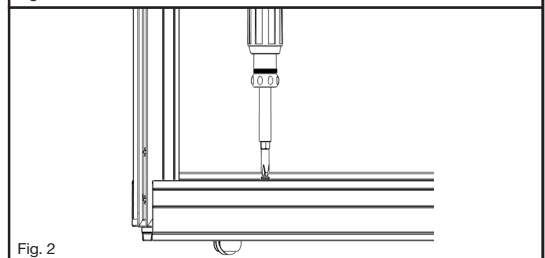

Fig. 2
- 2 Fully retract BOTTOM expander** by turning the expander adjustment screws clockwise until they stop (Fig. 2). DO NOT OVER-TIGHTEN.